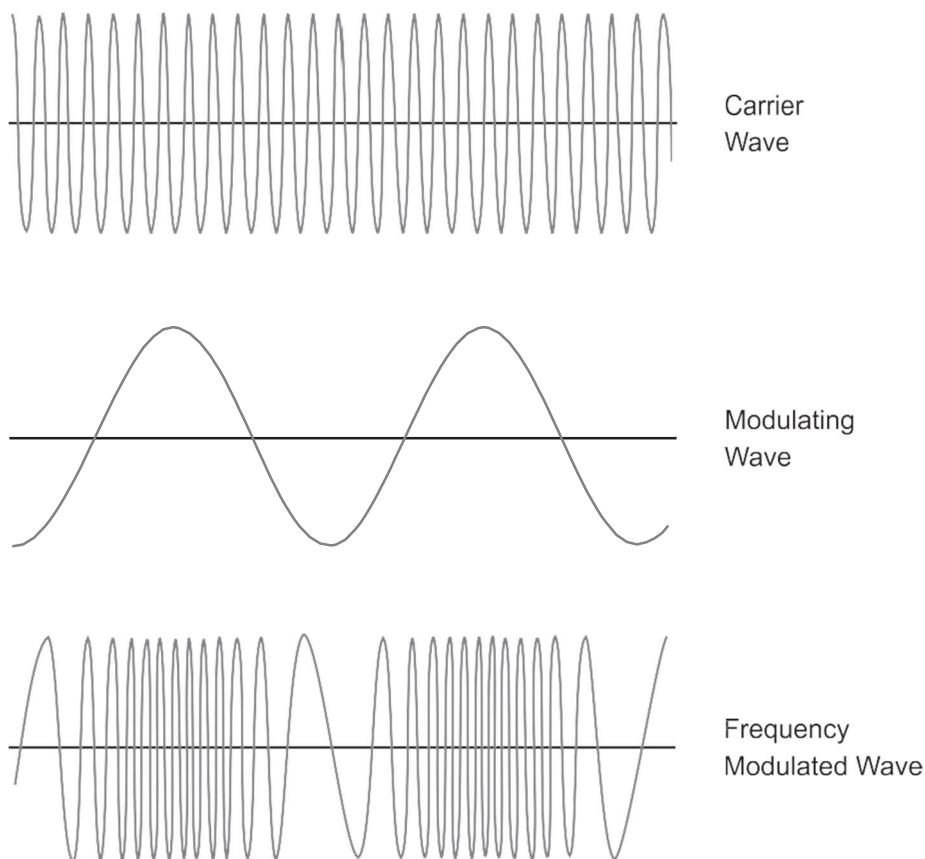

Figure 23.2: The principle of frequency modulation
Figure 23.2 illustrates the principle of frequency modulation (FM).
Figure 23.2 shows three types of waves, namely carrier wave, modulating signal and the frequency modulated output wave. You should note the difference in